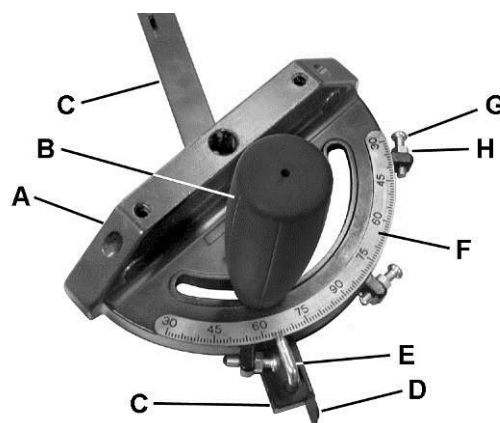

Figure 14
To operate (refer to Figure 14):
1. Release the *lock handle* (B, Fig. 14).
2. Flip the *plate stop* (D) up so it rests on the *miter bar* (C).
3. Adjust the *body* (A) until the *stop screw* (G) for the selected angle presses against the *plate stop* (D).
4. Tighten the *lock handle* (B).
2. Loosen the *lock nut* (H, Fig. 14).
3. Adjust the *set screw* (G) until the correct setting is indicated.
4. Tighten the *lock nut* (H).